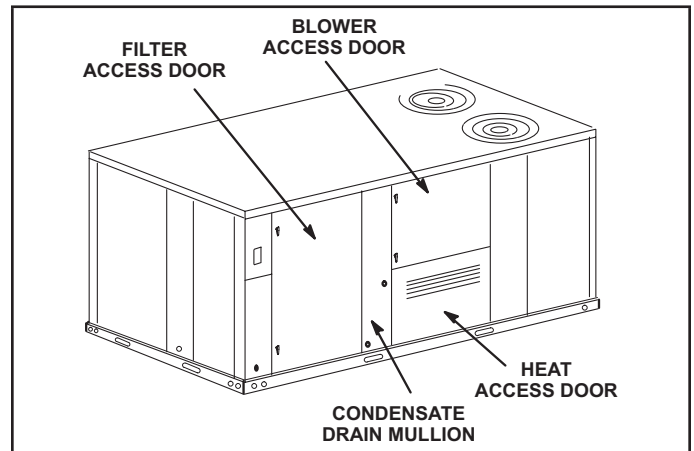

FIGURE 5
1 - Open blower and heat access doors. See FIGURE 5.
- 1 - Open blower and heat access doors. See FIGURE 5.